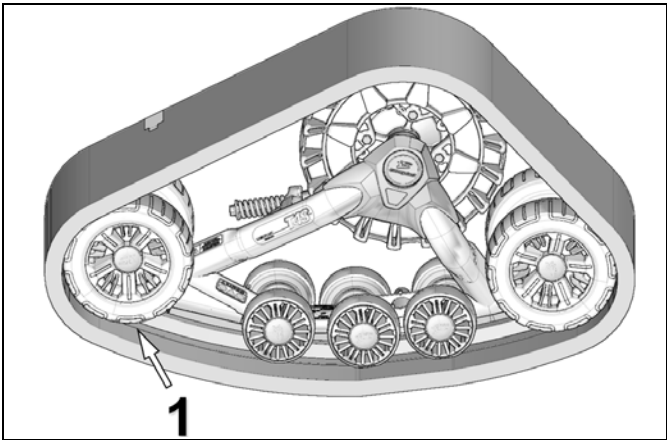

Figure 36
- Re-install the 241 mm tires (1). See Figure 36.